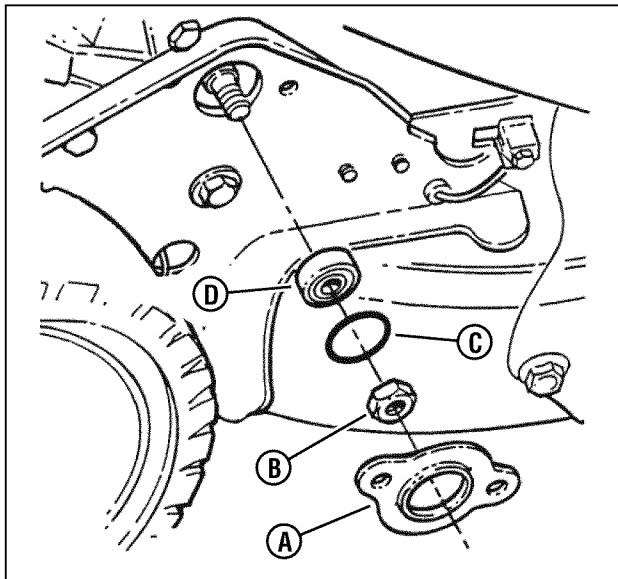

Figure 33: Replacing the hex shaft bearing
2. Remove the 3/8" hex lock nut (**B**, **Figure 33**), located on the outside of the right wheel bracket.